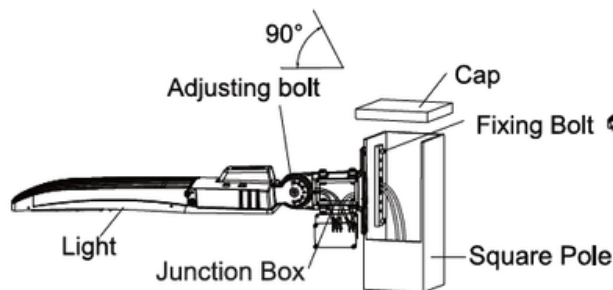

Figure 17
Step 2: Fix A&D bracket to square pole with bolt, open the cover of A&D bracket junction box, pull the wire into bracket junction box, connect the wire properly and cover the junction box. (Figure 17)
Notice: Adjustable angle is 0-90°. (Figure 17)